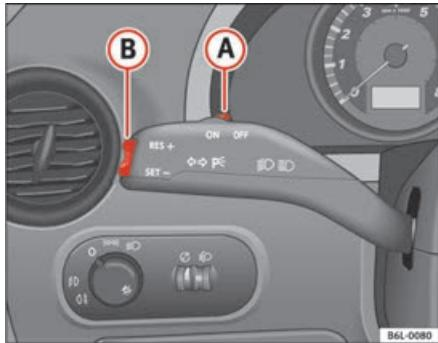

Fig. 106 Turn signal and main beam headlight lever switch and rocker switch for the cruise control
- Move the control ⇒ fig. 106 (A) to the left to **ON**.